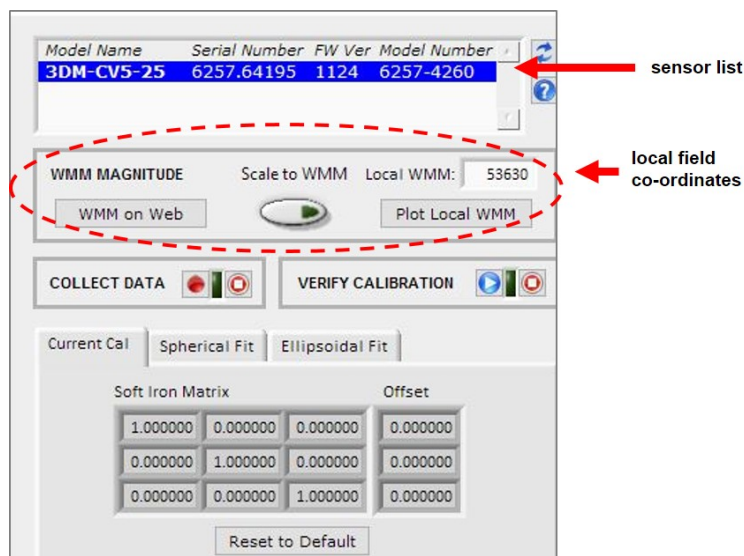

Figure 26 -Sensor Menu
3. The sensor should automatically appear in the sensor list. If not, use the Refresh button to query it and then select the sensor (*Figure 26 - Sensor Menu*).